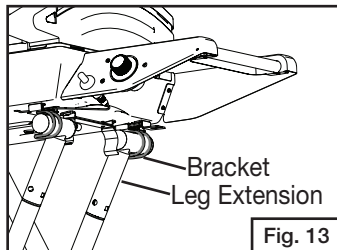

Fig. 13
- Slide leg extensions into locking brackets as shown (Fig. 13).